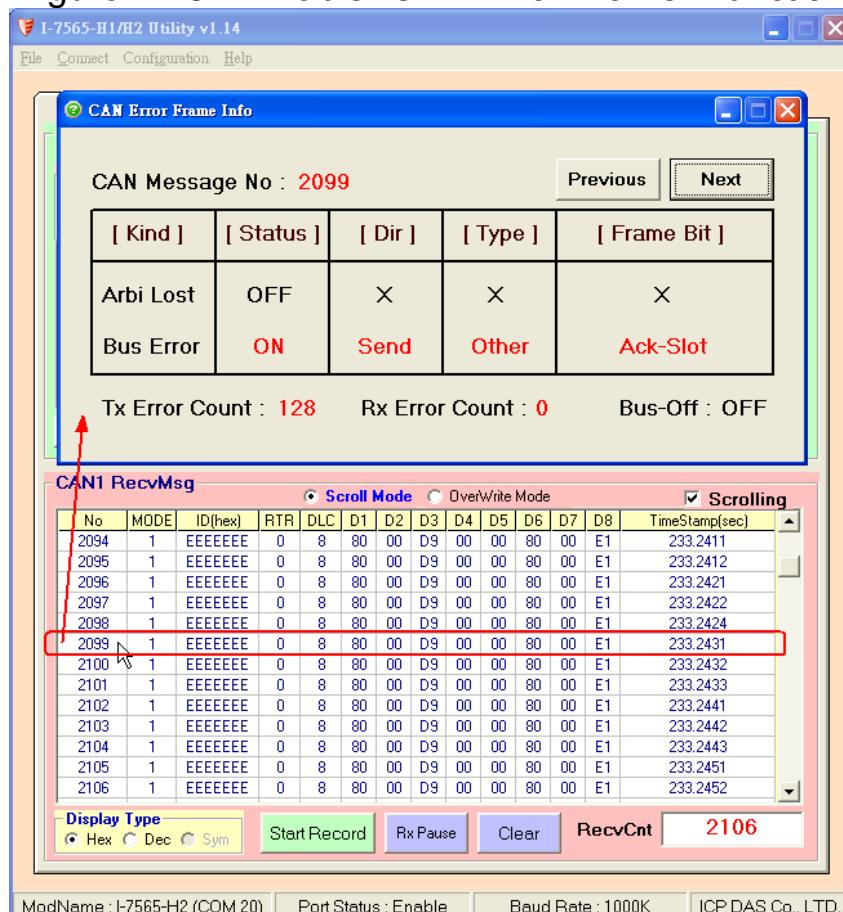

Figure 7-15-2 The detailed CAN Error Information
(3) If CAN error has happened, the CAN error information will be shown in "**CAN RecvMsg**" field. Users can click the error column to see the detailed error information like Figure 7-15-2.